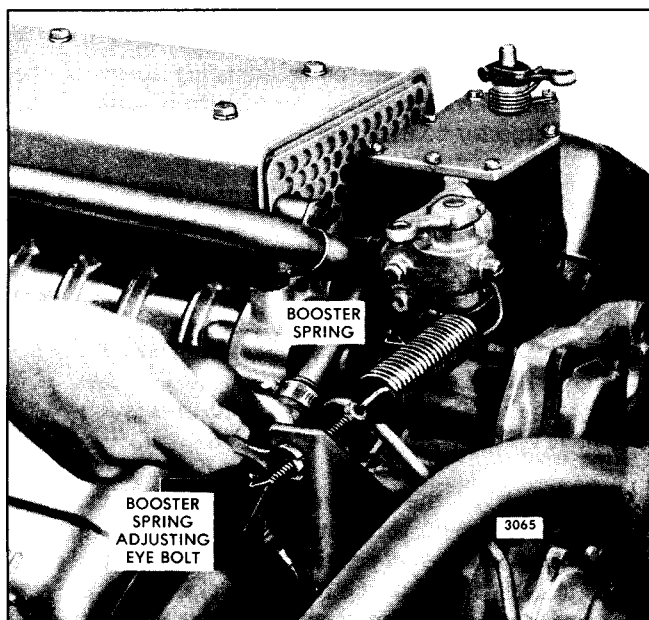

Fig. 9 - Adjusting Booster Spring
1. Refer to Fig. 9 and disconnect the booster spring and the stop lever retracting spring.
2. Refer to Fig. 9 and loosen the booster spring retaining nut on the speed control lever. Loosen the lock nuts on the eye bolt at the opposite end of the booster spring.